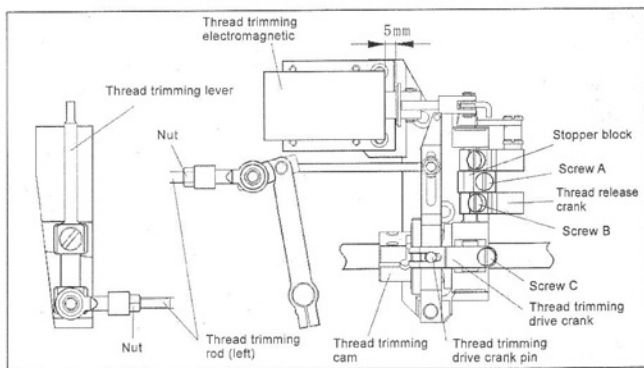

Fig. 24
- 1)Lean the machine head backward, screw out the bottom cover screw (1) of hook saddle, open bottom cover (2).
- 3)Loosen thread finger cam screw (3), adjust thread finger cam (4), make thread finger site on the nearest position of hook, and then retighten thread finger cam screw.
- 4)Loosen hook opener screw (5), adjust the distance between thread finger and hook is 0.3-0.4mm.
33. The thread trimming device adjustment(Fig.24)